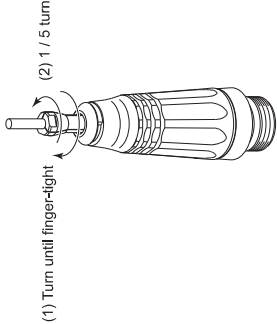

Fig. 7
- ③ Attachment and Adjustment of the collet
(1) Turn the cutting tool / the dummy bur clockwise to stop with the ring opened.
(2) Return it about 1 / 5 - 1 / 4 to remove the cutting tool / the dummy bur smoothly (Fig. 7).